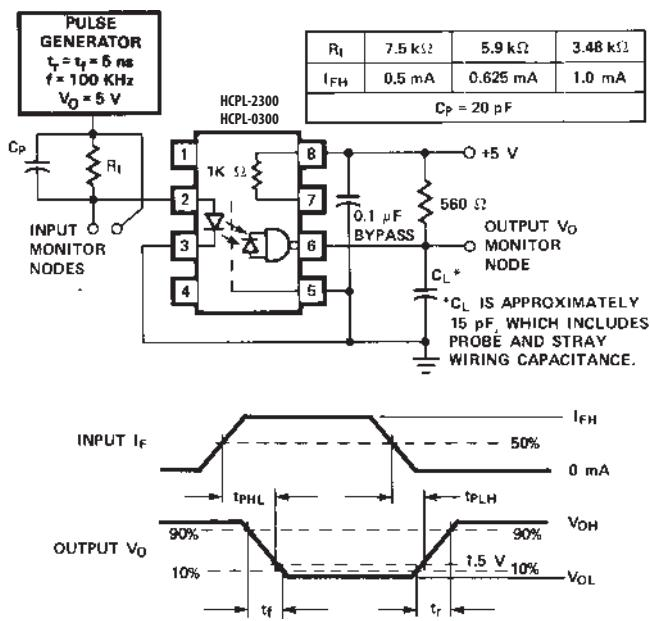

Figure 8. Test Circuit for t_{PHL} , t_{PLH} , t_r , and t_f .
8. C_p is the peaking capacitance. Refer to test circuit in Figure 8.